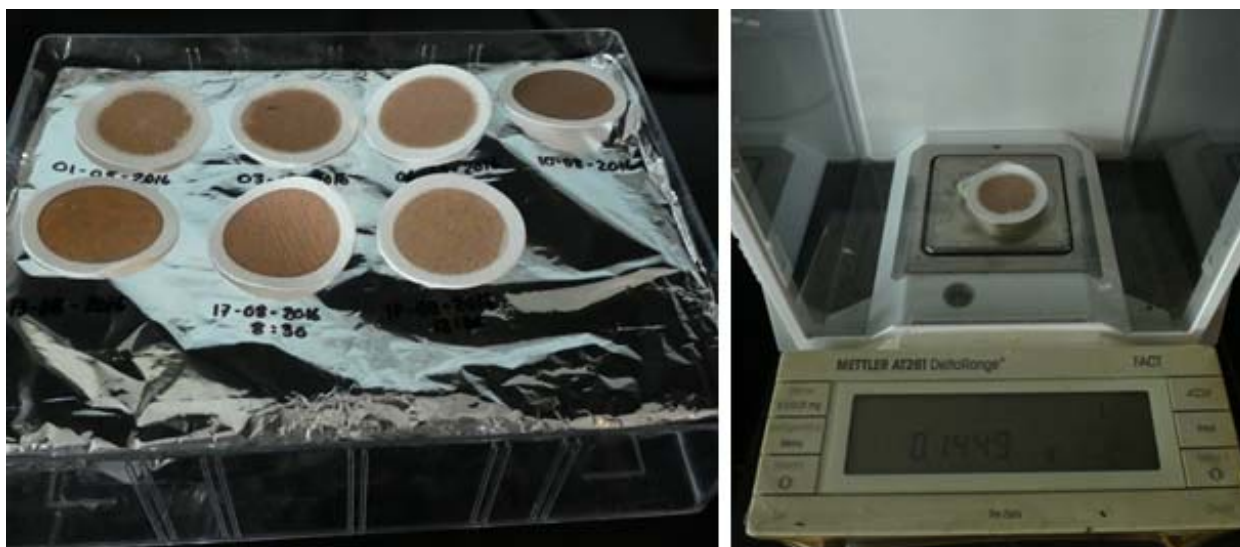

Figure 7.6 Tray of tin foil with filters .always transport them in the plast box (left). Weigh filter on the analytical scale
10. Carefully, remove the filter with sediment to a small tray of tin foil (figure 7.6). Note date and time on the tin foil next to the filter. When all samples are filtered then move the tin foil tray with filters into the plast box and carefully place the lid on the box. Go to the dry oven and place the tin foil tray inside (do not use an oven with fan and ventilation since filters will be blown around). Dry the filters at 100°C and let it dry for at least 3-4 hours (until stable weight)